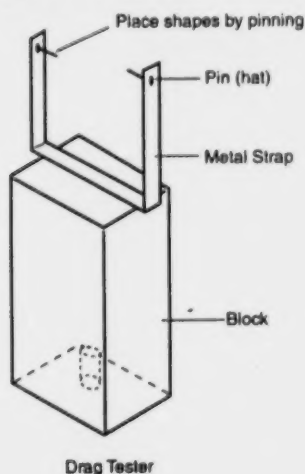

Figure 7 - Drag Tester
6. Place coins on wing shapes to determine lift capabilities (use various weights i.e. coins-see Fig 7).